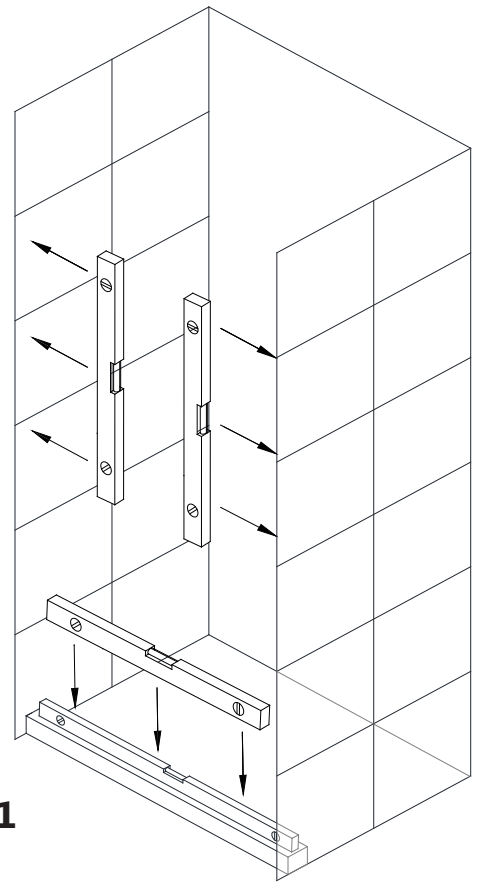

Fig 1
1. Measure the finished opening width at the top, middle and bottom. Check the threshold for level and the walls for plumb. This model can adjust up to 1/2" per side for out-of-plumb conditions or 1" for overall width within the model size. **(Fig 1)**